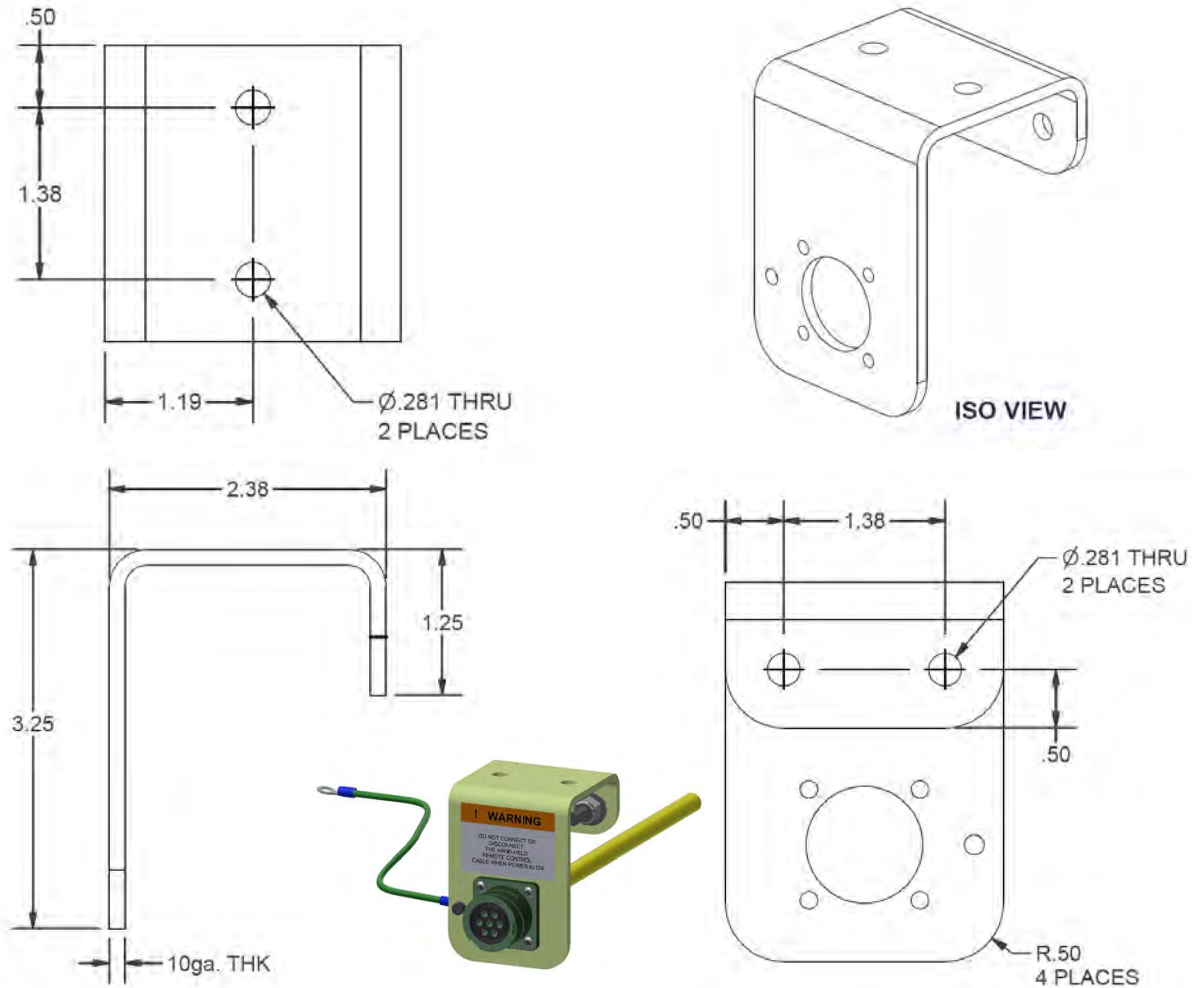

Figure 5-8 HHRC Bulkhead Bracket Installation Dimensions
1. Drill clearance holes for 1/4-20 screws located per Figure 5-8. Either two hole pattern can be selected according to the space available.